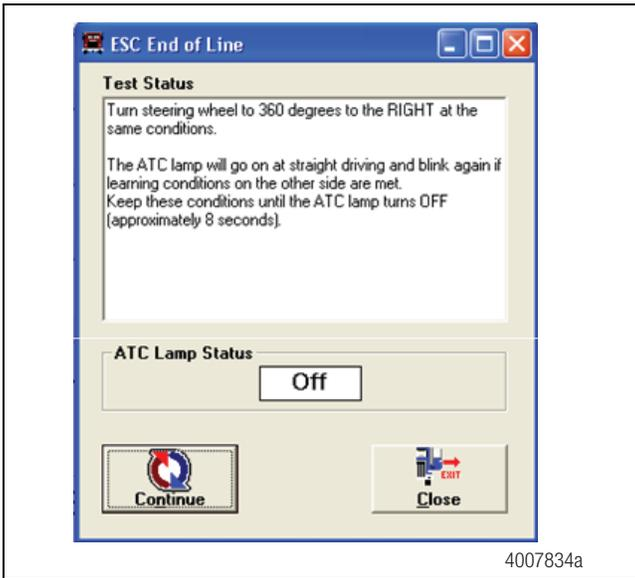

Figure 24
9. This message will appear after the steering ratio has been calculated. Figure 23. Stop the vehicle. Read the message box carefully and follow the instructions. Turn the steering wheel 360 degrees in the opposite direction from being centered. Repeat the driving conditions. Again, the ATC/RSC/ESC lamp will start blinking when the required conditions are met. Keep driving until the light turns off. Figure 24.